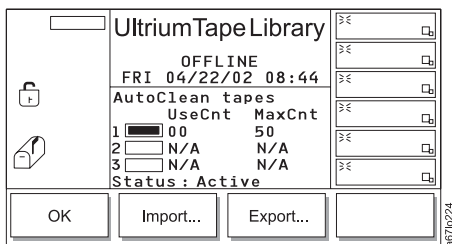

Figure 4-88. AutoClean Dialog
3. Press the button below the **AutoClean** softkey. The AutoClean Dialog displays (see Figure 4-88).